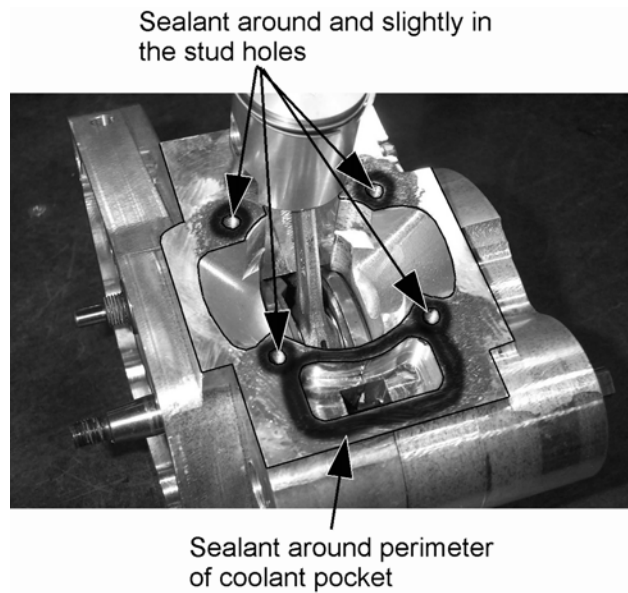

Figure 29
20. Apply gasket sealer (ThreeBond #1104, semi-drying liquid gasket material) to the cylinder deck areas around the coolant passage and cylinder studs as shown in figure 29.
22. Apply gasket sealer to the top surface of the gasket in the same locations indicated in figure 29.